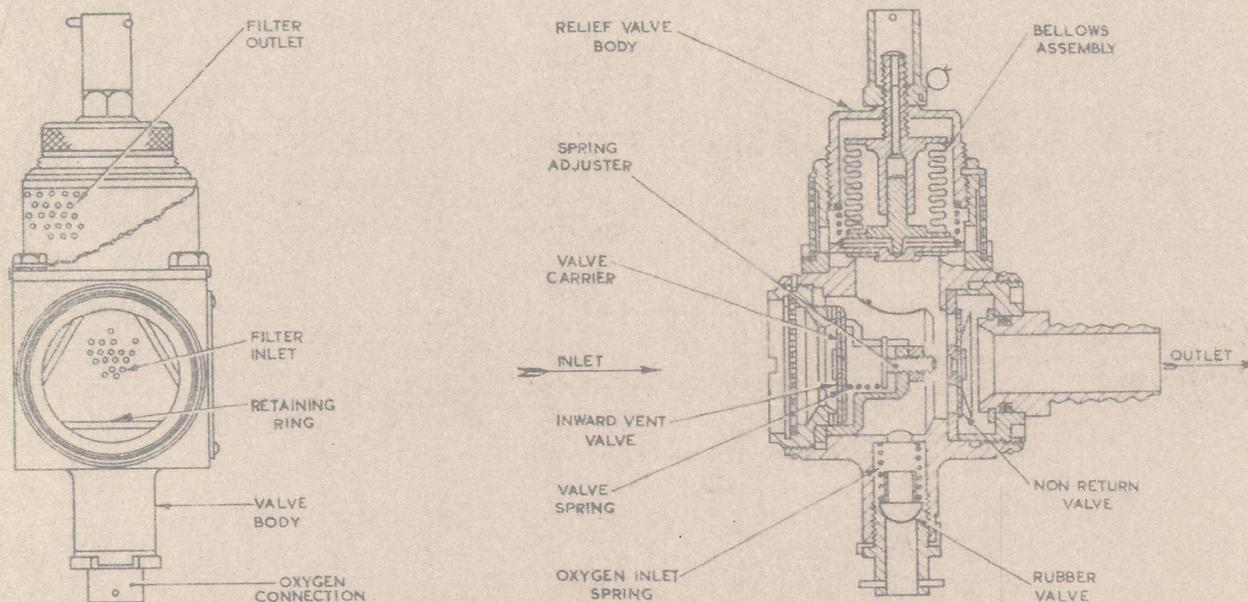

Fig. 1. Details of valve, Type RV51/2
Details of valve, Type RV51/2 Fig. 1
4. The valve (*fig. 1*) consists of four components within a light alloy casting as follows :—